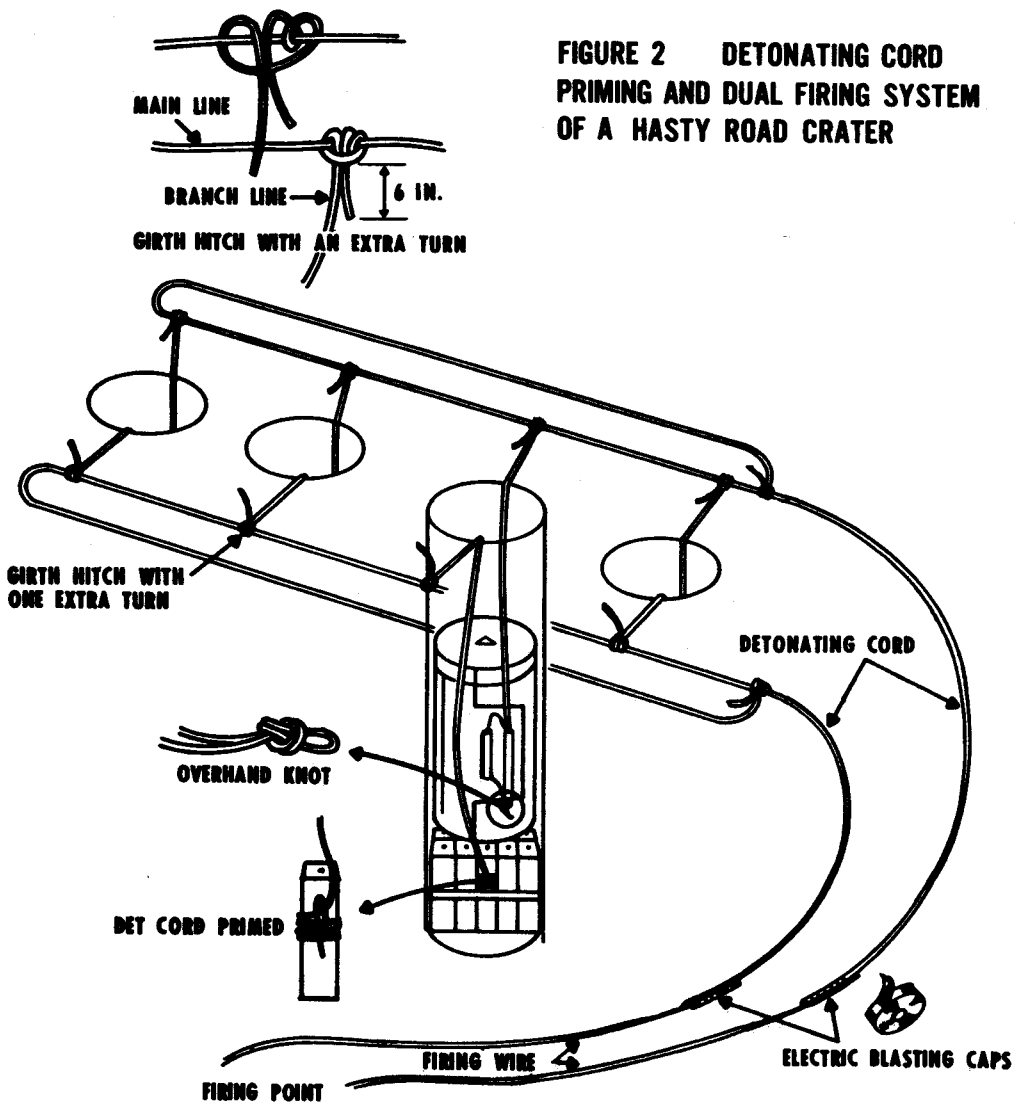

FIGURE 2 **DETONATING CORD**
(1) When employing the standard 15 lb or 40 lb shape charges, use the proper standoff, GTA 5-10-28, pg 8.
(2) Prime each shape charge with detonating cord and a nonelectric blasting cap. Use a line or ring main to insure simultaneous detonation.
(3) Explosive method (limited) - Breaching hard surface pavement - A one-pound charge of explosives is used for each two inches of pavement thickness. It is tamped with material twice as thick as the pavement. Concrete should not be breached at an expansion joint, because the concrete will shatter irregularly.
6. Tie in Branch Lines to the Firing System: Figure 2